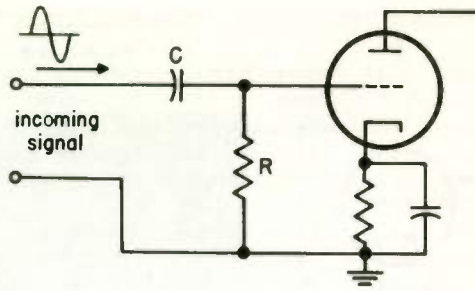

Fig. 44
1. The signal voltage applied to the grid in Fig. 44 is the signal voltage across R . The CR network can cause the incoming signal to shift so that the signal reaching the grid is not completely in phase with the incoming signal. In some cases this phase shift will cause distortion. The amount of phase shift will be negligible if (X_C is much greater than R) (R is much greater than X_C).
3. As you decrease the frequency of the incoming signal in Fig. 44, will the phase shift of the signal on the grid increase or decrease?